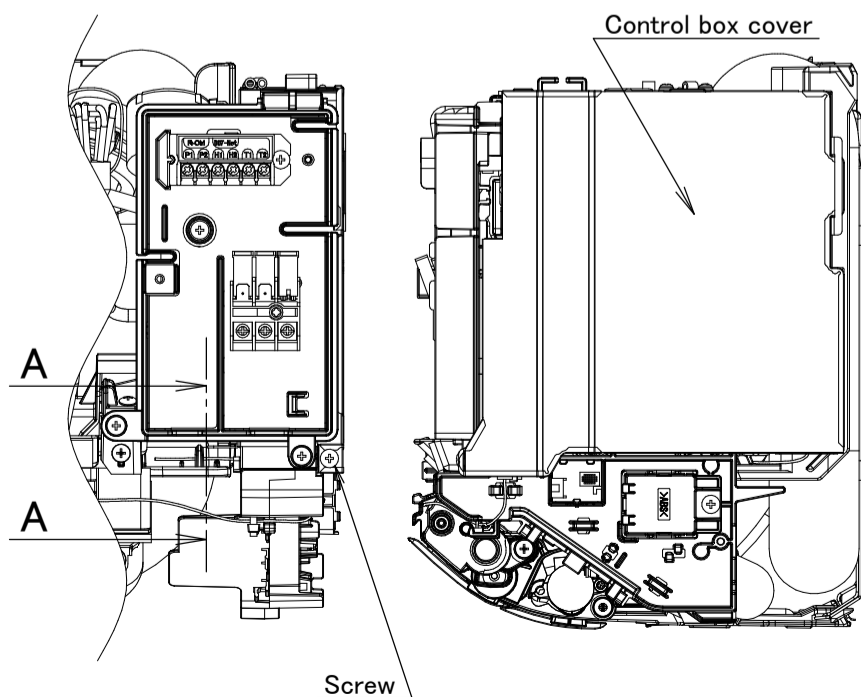

Figure 3
(1) Referring to the installation manual "5-2. REMOVING AND INSTALLING FRONT GRILLE" attached to the indoor unit, remove the front grille.
(2) Remove the screw and the control box cover. (Figure 3)